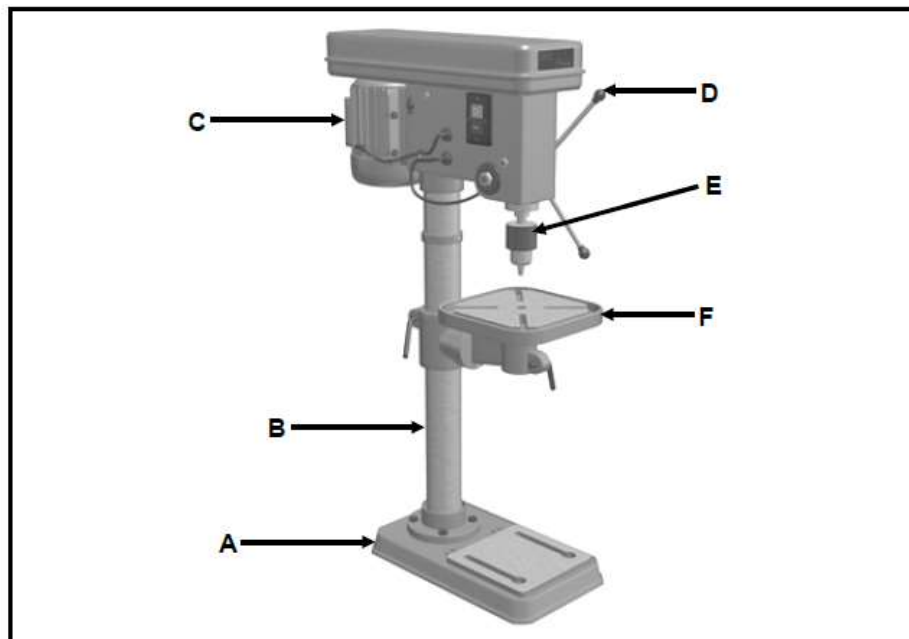

FIGURE 3.4
3.4 FIGURE 3.4 below shows a type of cutting machine. Answer the questions that follow.
3.4.1 Identify the machine in FIGURE 3.4 above.